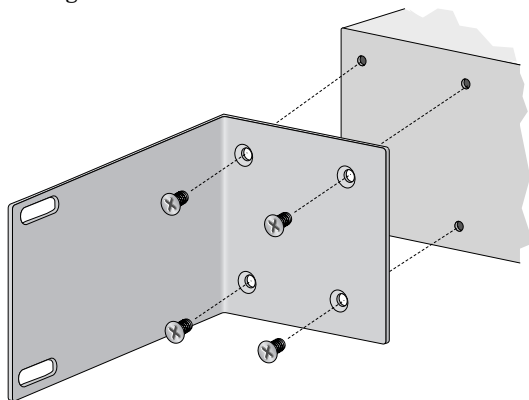

Figure 6 Installing a Rack-mounting Bracket
- a. Affix one of the rack-mounting brackets to the side of the switch, as shown in Figure 6.